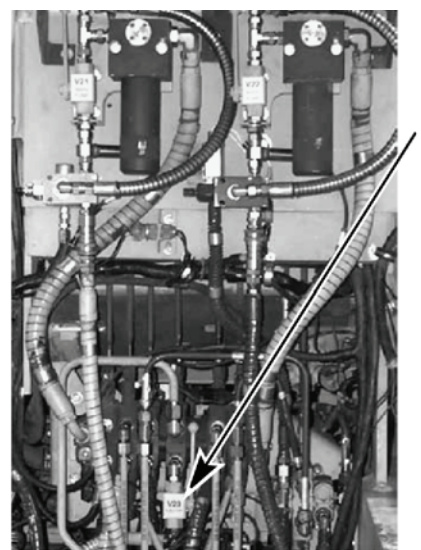

Figure 56. DCV Bank
- Manually close the ejector inhibit ball valve V23 (Figure 56, item 1) on the DCV bank.